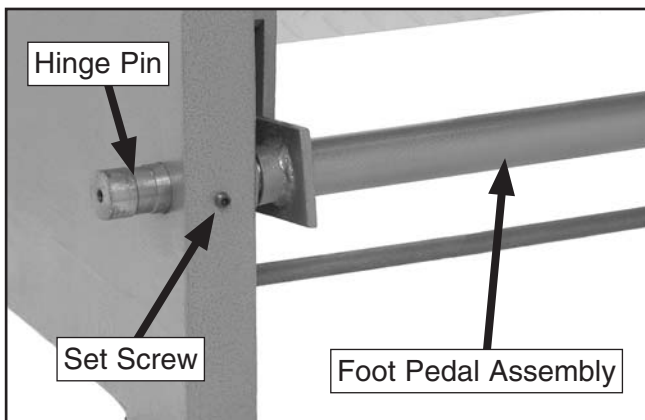

Figure 7. Hinge pin & foot pedal.
1. At the lower rear of the machine, loosen the set screws that hold the hinge pins in place and slide them outward (**Figure 7**).